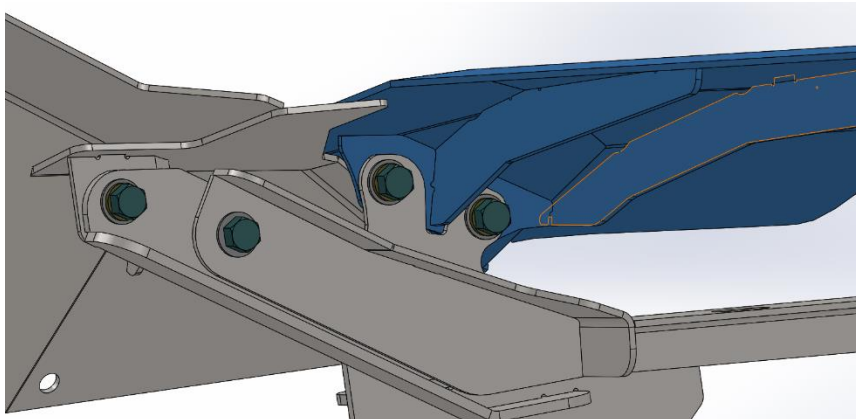

Figure 22
15. Loosely install the four (4) 3/8"-16 bolts, flat washers and lock washers into the Cowl on both passenger and driver side. (Figure 22)